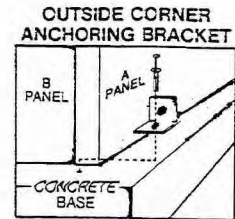

FIG. 1A
3. Set "D" (roof) panel on "A-B" sections and using four (4) hexhead screws fasten thru holes provided.
4. A. Using one (1) hexhead screw attach **Outside SS Corner Anchoring Brackets** to "A-B" sections. Fasten bracket to concrete using one anchor for each bracket (FIG 1A).